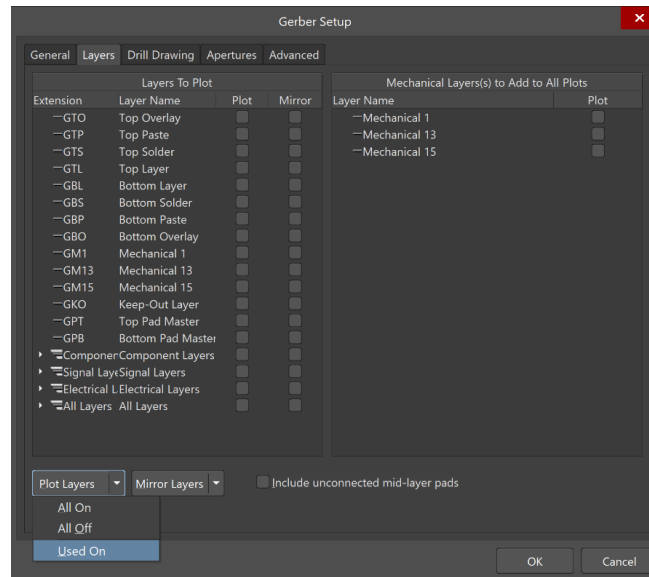

Figure 11: Layers Gerber Setup
15. Towards the bottom, click the arrow next to “Plot Layers” and select “Used On” as shown in Figure 11.